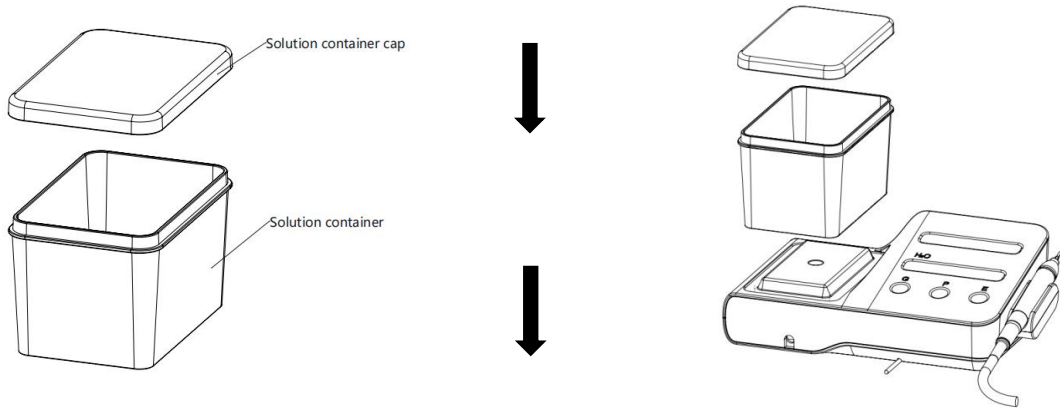

Figure 2.4
- 4) Open the solution container cap, put a proper amount of pure water into container, close the cap, and install the container to the installation position of container on the device(Figure 2.4).